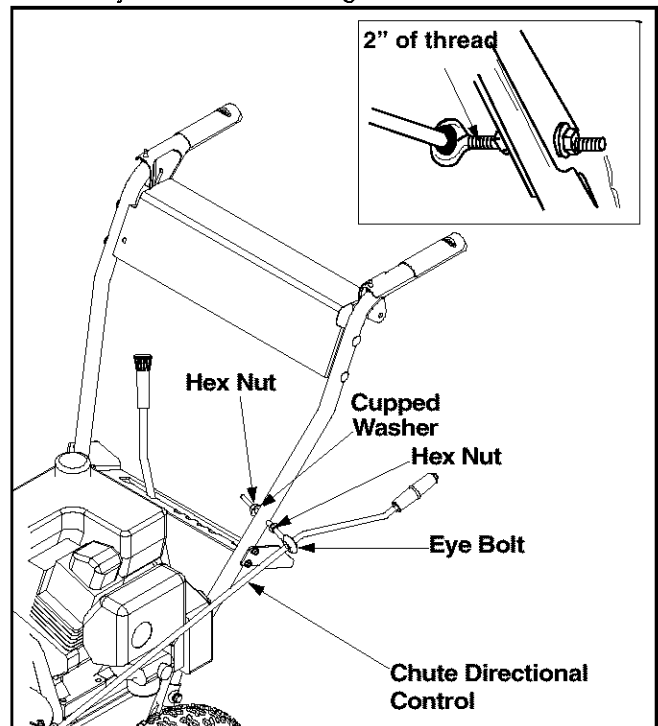

Figure 9
- Thread one hex nut onto the eyebolt on the chute directional control assembly until there is at least two inches of threads showing between the nut and the eyebolt head. See Figure 9.